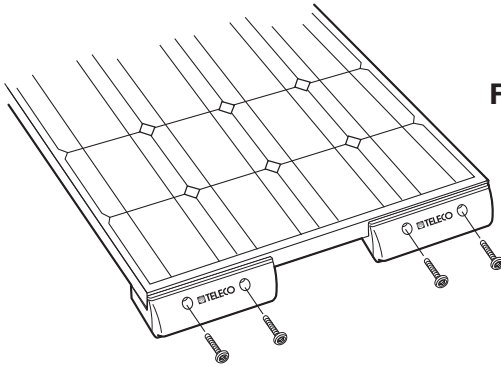

FIG. 3
Fix the 4 support feet (5) to the solar panel with the supplied screws, and tighten to a torque of 2.5 Nm (see **Fig.3**).